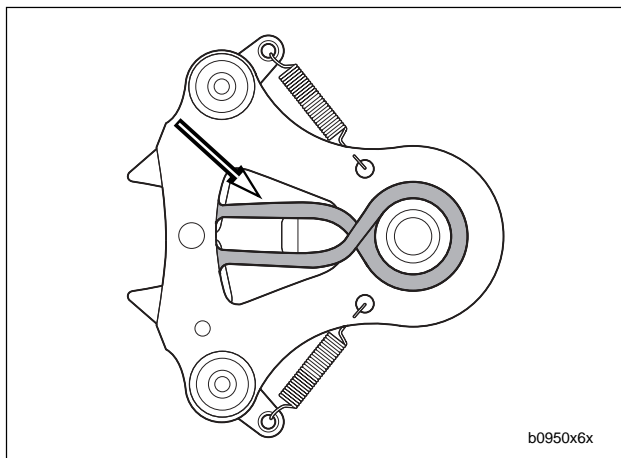

Figure 6-84. Shifter Shaft Return Spring (Correctly Installed)
1. See Figure 6-84. Correctly install shifter return spring onto the reverse side of the shifter shaft assembly before placing shaft in left crankcase half.